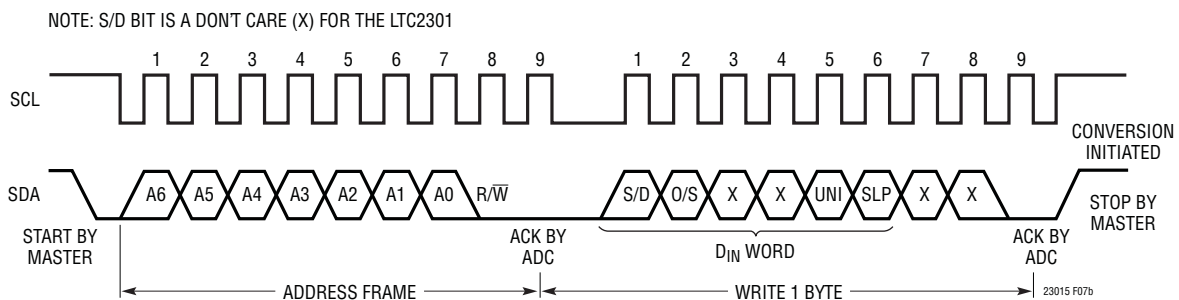

Figure 7b. Timing Diagram for Writing to the LTC2301/LTC2305
The software compatible LTC2301/LTC2305/LTC2309 family features a 6-bit D_{IN} word to program various modes of operation. Don't care bits (X) are ignored. The SDA data bits are loaded on the rising edge of SCL during a write operation, with the S/D bit loaded on the first rising edge and the SLP bit on the sixth rising edge (see Figure 7b in the I²C Interface section). The input data word for the LTC2305 is defined as follows:
When the LTC2301/LTC2305 is addressed for a write operation, it acknowledges by pulling SDA low during the low period before the 9th cycle and acts as a receiver. The master/transmitter can then send 1 byte to program the device. The input byte consists of the 6-bit D_{IN} word followed by two bits that are ignored by the ADC and are considered don't cares (X) (see Figure 7b). The input bits are latched on the rising edge of SCL during the write operation.